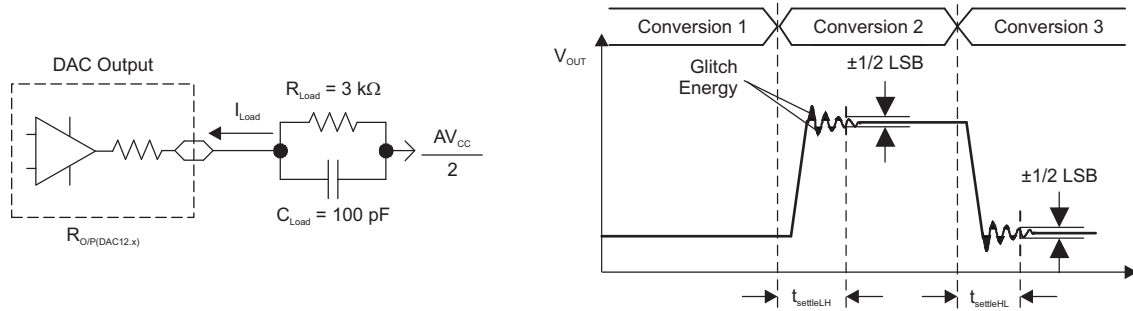
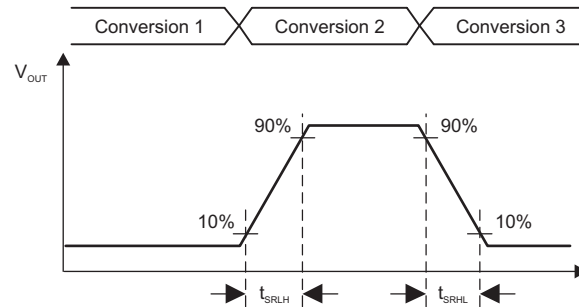

Figure 5-21. Settling Time and Glitch Energy Testing
Figure 5-22. Slew Rate Testing
V_{REF} = V_{CC}, DAC12IR = 1 (see Figure 5-21 and Figure 5-22), over recommended ranges of supply voltage and operating free-air temperature (unless otherwise noted)
- (1) R_{Load} and C_{Load} connected to AV_{SS} (not AV_{CC}/2) in Figure 5-21.
(2) Slew rate applies to output voltage steps ≥ 200 mV.